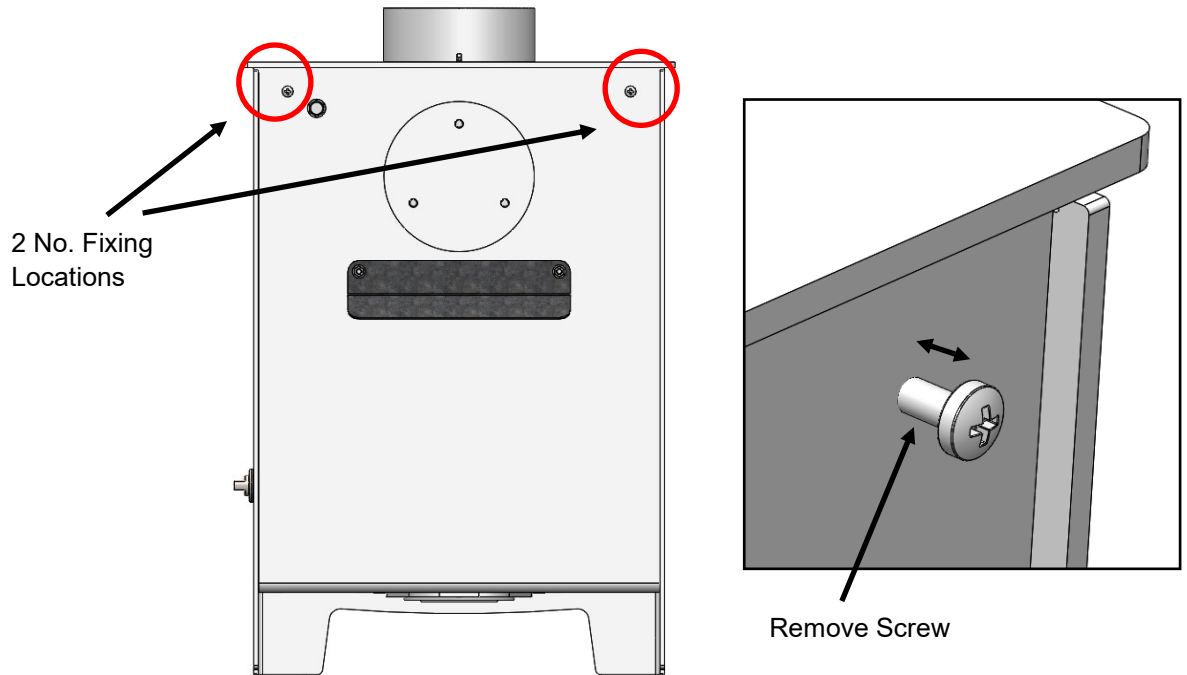

Figure 3. Fixing Locations
Step 2 : Lower & position the heat shield onto the stove and put the screws through the holes. (See Fig. 3 & 4)